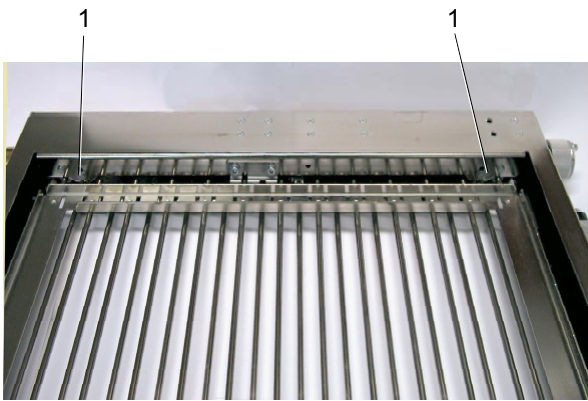

Fig. 63 Upper screws
9. In the upper section of the fold plate, loosen the two screws (Fig. 63/1) which are fixed in an oval hole.